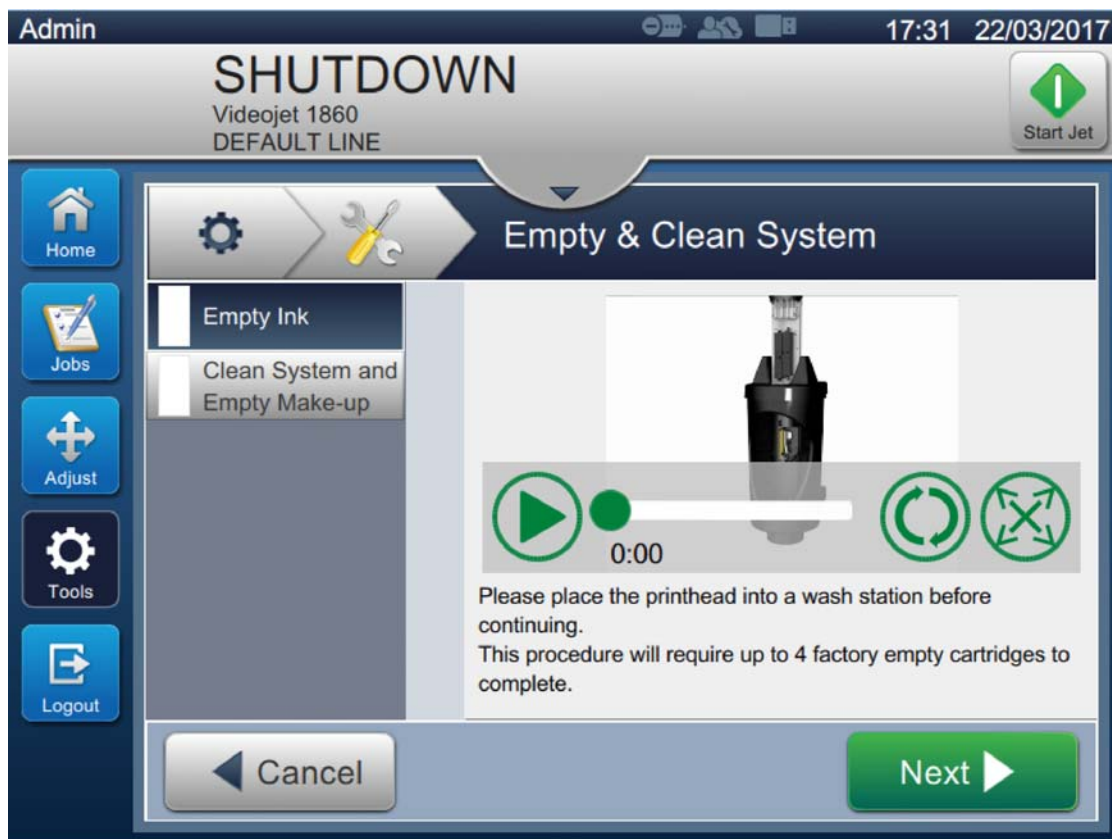

Figure 7-3: Empty and Clean System Screen
2. Follow the instructions/video and touch the *Next* button as shown in the Figure 7-3 to progress.